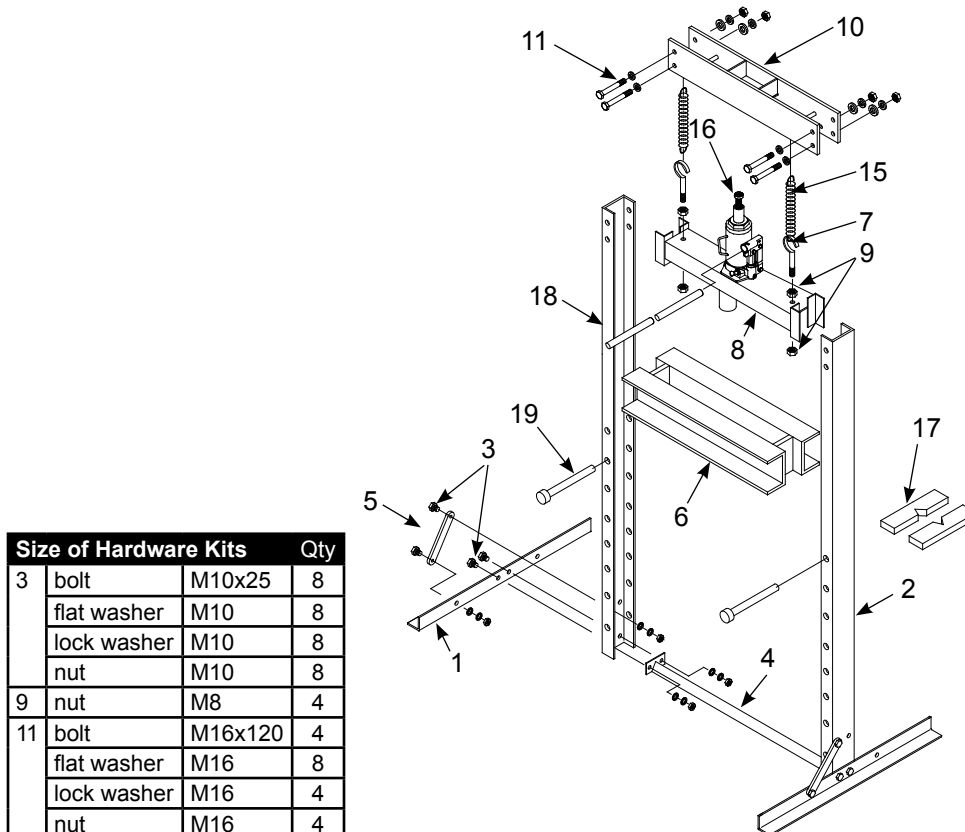

Figure 3 - Assembly Illustration for model 60120
Model 60120: (Refer to Figure 3)
1. Attach base legs (1) and lower cross member (4) to upright channels (2) with bolts, flat washers, lock washers and nuts (3). Hand tighten only.
2. Attach support links (5) to the base (1) and upright channels (2) with bolts, flat washers, lock washers and nuts (3).
3. Carefully slide bed frame (6) down to lowest possible position between the upright channels (2).
4. Attach screw hooks (7) to the jack bracket (8) with nuts (9) as shown in figure 3. Leave nut untighten to provide easy spring attachment.
5. Slide the jack bracket (8) down between upright channels (2) onto the bed frame (6).
6. Attach upper cross member (10) to upright channels (2) with bolts, flat washers, lock washers and nuts (11).
7. Attach one end of the springs (15) to the axles of upper cross member (10) and the other end to the screw hooks (7) on the jack bracket.
8. Carefully place the bottle jack (16) between the head plate of upper cross member (10) and jack bracket (8). Tighten the nuts (9) that hold screw hooks (7) to prevent jack from inadvertently falling out.
10. Carefully bring the bed frame (6) up and secure it with pins (9).
11. Place the Arbor Plates (17) on Bed Frame (6).
12. The press is now ready to use. Don't forget to insert the handle (18) into handle sleeve of bottle jack.